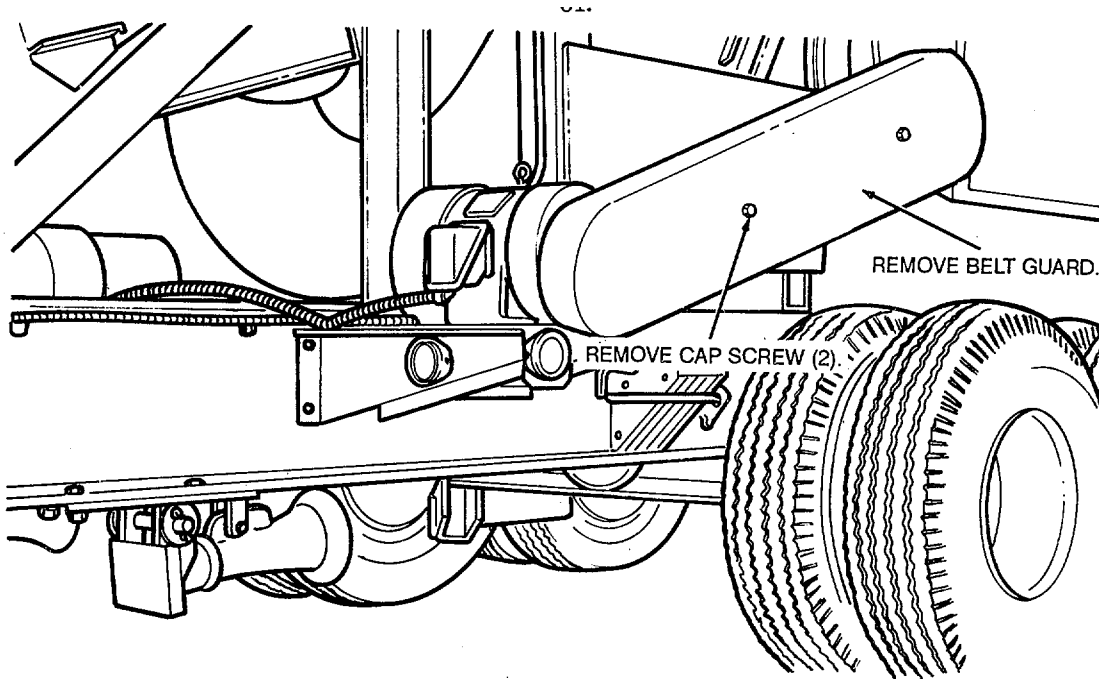

Figure 60. Return (under) conveyor drive belt guard, removal and installation
- a Remove the return (under) conveyor belt guard from the unit (figs. 60 and 61).
- c Install the return (under) conveyor drive belt guard on the unit in reverse of the instructions on figures 60 and 61.